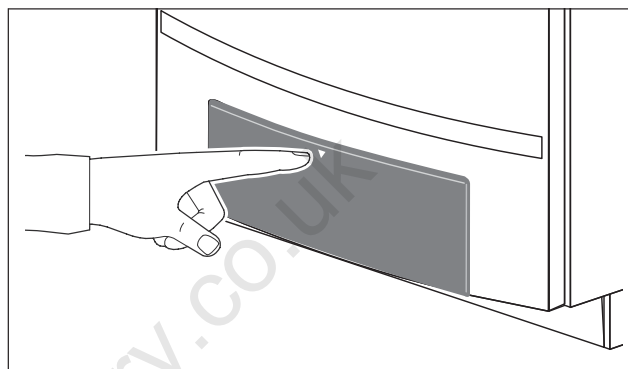

fig. 108 Opening the control panel
- Push on the control panel to open it (fig. 108).